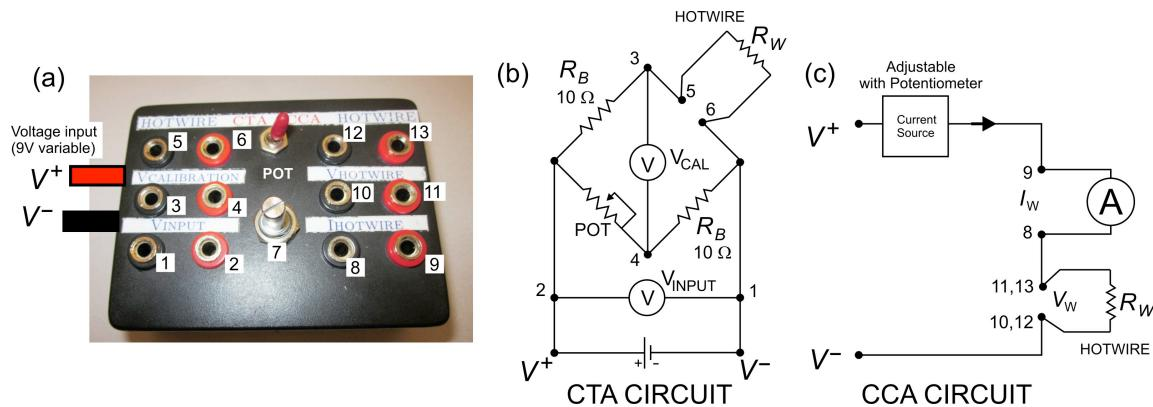
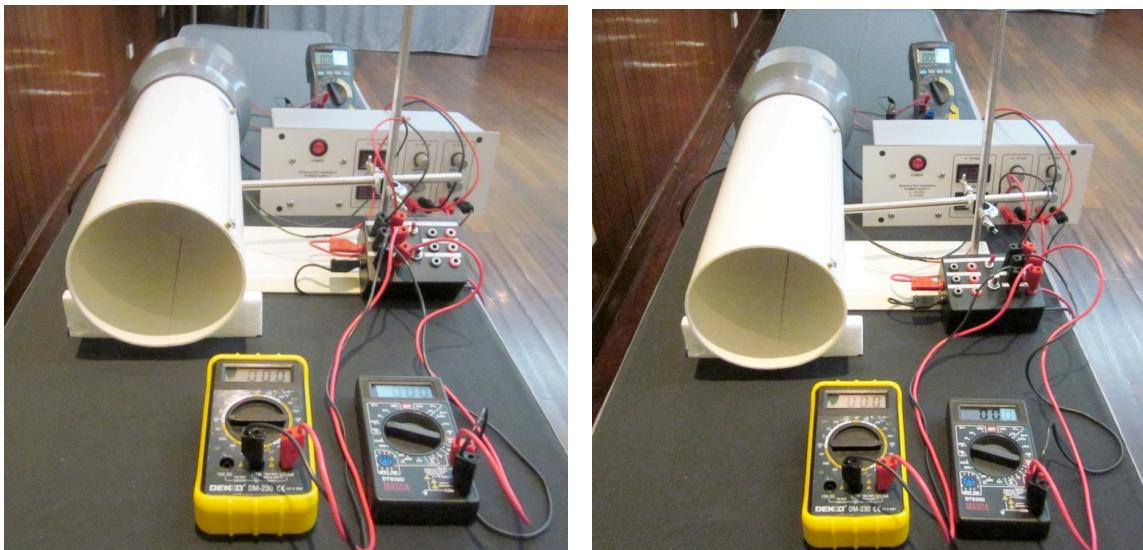

Figure 9. (a) Hotwire electronic box (b) Constant Temperature Anemometer (CTA) circuit (c) Constant Current Anemometer circuit (CCA).
Figure 10. (a) Constant temperature anemometer (CTA) setup on the left. (b) Constant current anemometer (CCA) setup on the right.
The two experiments require some electronic circuit to perform which we provide in an electronic box, see Figure 9 below. To perform each of the experiment, you will only need one side of the circuit. There is a **small switch on the top of the box** to toggle between the two, labeled as CTA (Constant Temperature Anemometer) and CCA (Constant Current Anemometer).
The constant temperature method is performed by keeping the temperature of the hotwire (and thus its resistance) constant for different wind speed. To achieve this we use Wheatstone bridge with a variable (POT) resistor across the hotwire to balance the bridge as shown in Figure 9(b).
- (b) Connect the wires and jacks according to Figure 9(b) and Figure 10(a). Use the 9V variable voltage source from the power supply for the hotwire electronic box.
- (b) Connect the wires and jacks according to Figure 9(c) and Figure 10(b). **Carefully inspect that they are correct and make sure all the knobs on the power supply are turned all the way down (left) before you turn it on.**